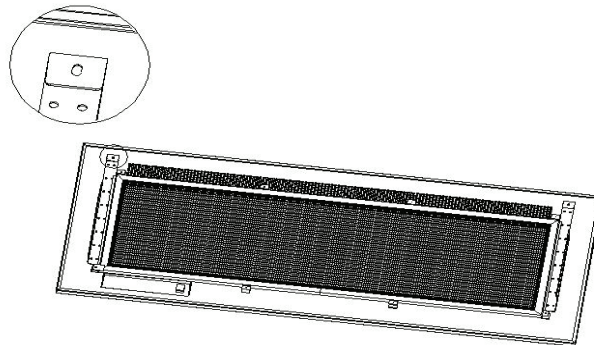

Fig. 1
- Bend the top tabs flat (**Fig. 1**).
- A. Remove the 2 screws from the top of the appliance (**Fig. 1**).